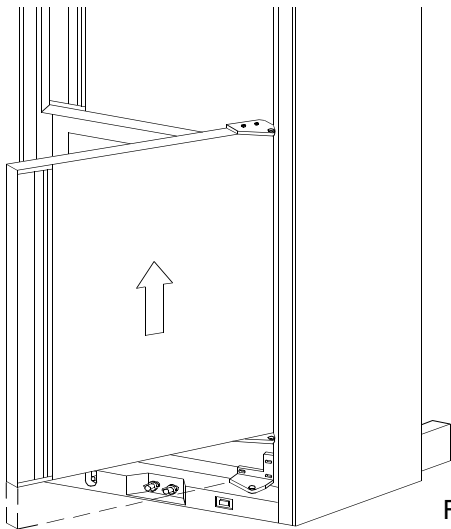
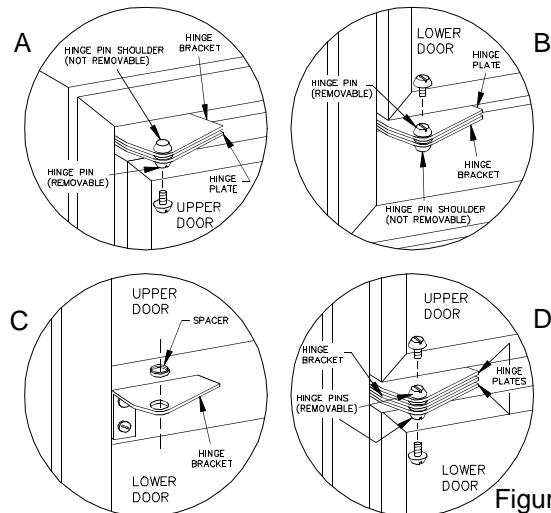

Figure 7
Figure 12
2. Remove the top hinge pin using one of the slotted screwdrivers. Remove the center hinge pin (both pieces) using the two slotted screwdrivers; one on each end of the pin. Lastly, remove the bottom hinge pin. Be sure to save the pins for reassembly later. (See Figure 12)
4. Remove the lower door by opening it slightly and pulling the top of the door away from the refrigerator. Allow enough room so the door can be lifted up and off of the bottom hinge pin shoulder (See Figure 7). Be sure to save the hinge plates along with the spacer used in the middle hinge bracket, for reassembly later. (See Figures 12 - A, B, and C)